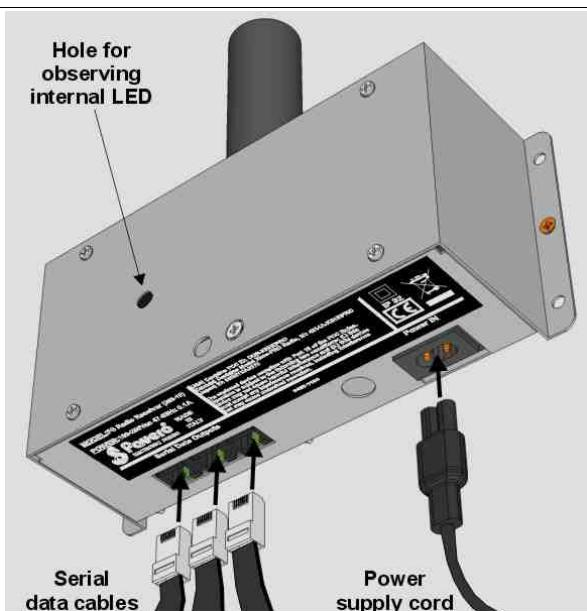

Fig. 8: Connecting the scoreboards
The Radio Receiver has three identical serial data output ports (Fig. 8) to which the various electronic scoreboards can be connected; to install the cables follow the directions below:
2. Insert the power cord plug (Fig. 8) into the wall socket (chapter 2).
1. Through the proper hole, make sure that the red LED inside the Receiver is illuminated and flashing (Fig. 8); if it is not illuminated, substitute the power supply (chapter 6.4). If it is illuminated but not flashing, check the radio connection (chapter 6.1.3).
4. By looking through the proper hole (Fig. 8), check the red LED of the Radio Receiver:
5. Try using another serial data output port of the Radio Receiver (Fig. 8).
1. Disconnect the power supply cord and the serial data cables of the Radio Receiver (Fig. 8).